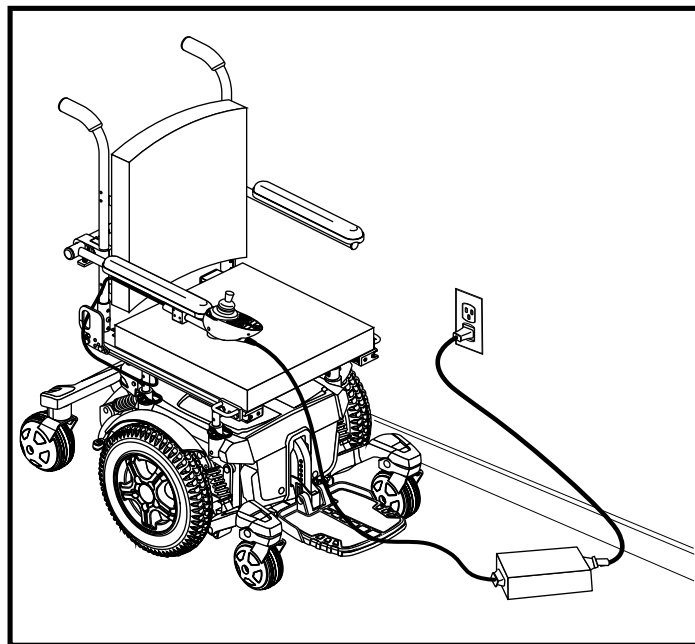

Figure 26. Battery Charging
3. Plug the off-board charger into the off-board charger/programming socket on the controller. See figure 26.